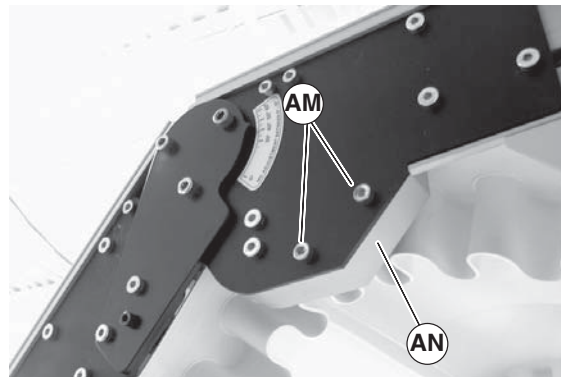

Figure 85
- Remove screws (Figure 85, item AM) on both sides of knuckle and remove guard (AN).